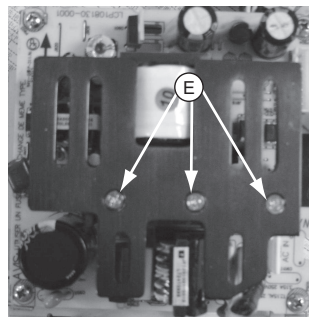

Figure 5
- 2) Loosen 3 screws "E" as shown in figure 5.